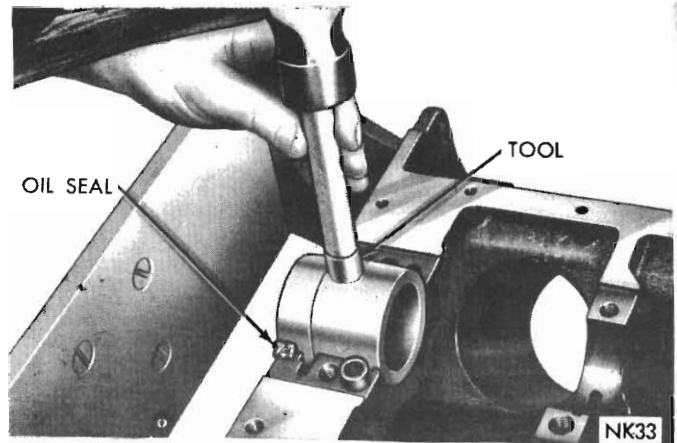

Fig. 39 - Installing rear main upper oil seal
(1) Install a new rear bearing oil seal in the cylinder block so that both ends protrude.
(2) Using Tool E9C60C tap seal down into position until tool is seated in bearing bore. (Fig. 39).